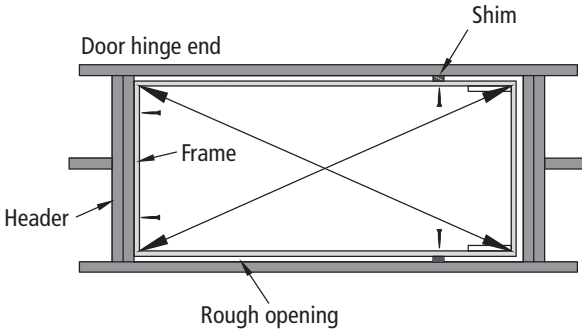

FIGURE 7
F. Make sure frame on door hinge side of ladder is pushed up against header and is centered side to side in rough opening. Temporarily secure frame to header using two 2 1/2" deck screws (Figure 7). Do not use pre-drilled holes for deck screws. Pre-drilled holes are used in Step 2.
G. Carefully open attic ladder door but do not unfold the climbing section until indicated in step 3. Center and square the opposite side of attic ladder frame in the rough opening using shims. Ensure ladder frame is square by measuring diagonals of the frame within 1/8" (Figure 7).
H. Secure sides of ladder frame to ceiling joists with 2 1/2" deck screws at shim locations (Figure 7). Do not use pre-drilled holes for deck screws. Pre-drilled holes are used in Step 2.